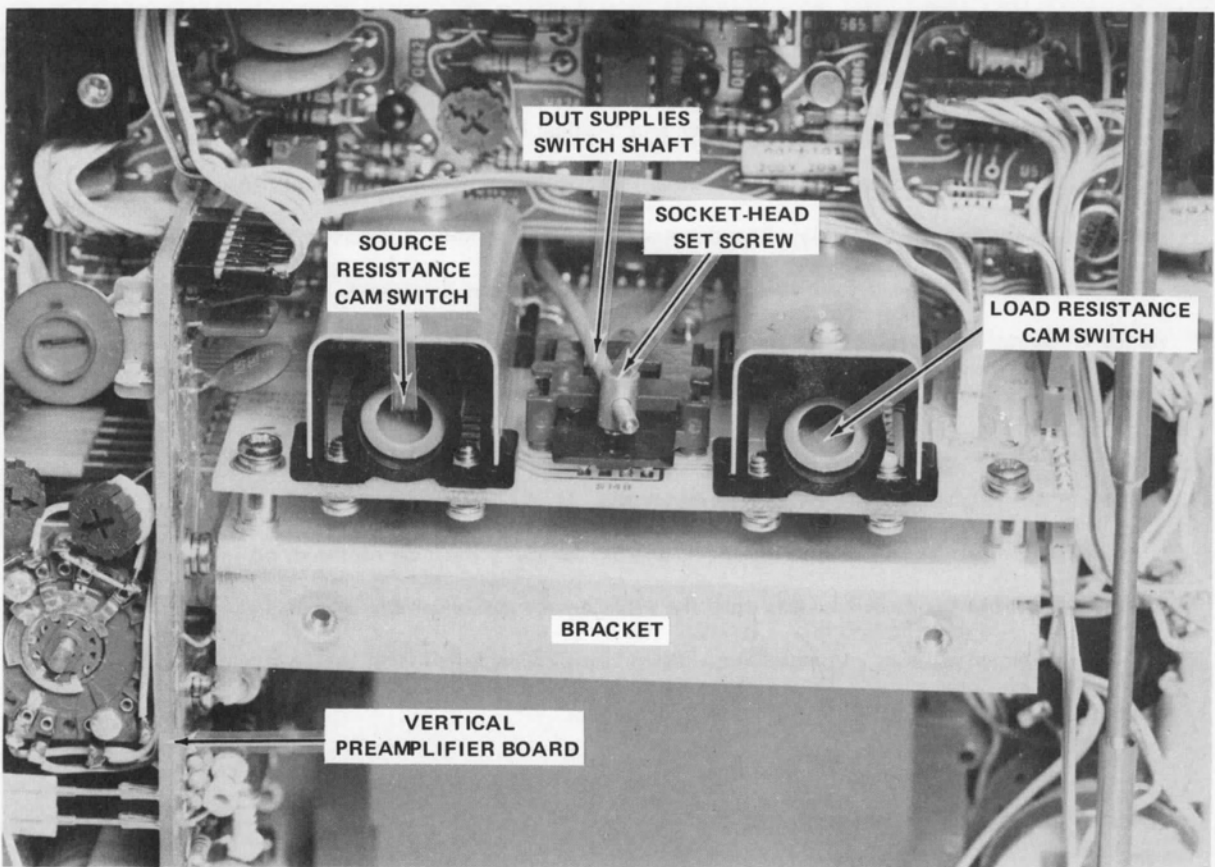

Fig. 4-8. Location of the DUT SUPPLIES switch arm.
- g. Loosen the socket-head screw from the DUT SUPPLIES switch arm (see Fig. 4-8).